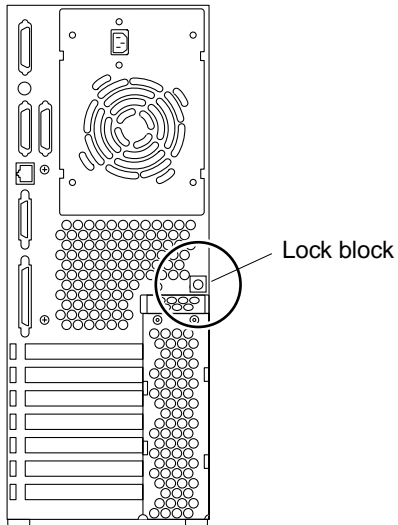

FIGURE 7-1 Lock Block Location
2. Disconnect the lock block (FIGURE 7-1).
3. Connect the lock block (FIGURE 7-1).